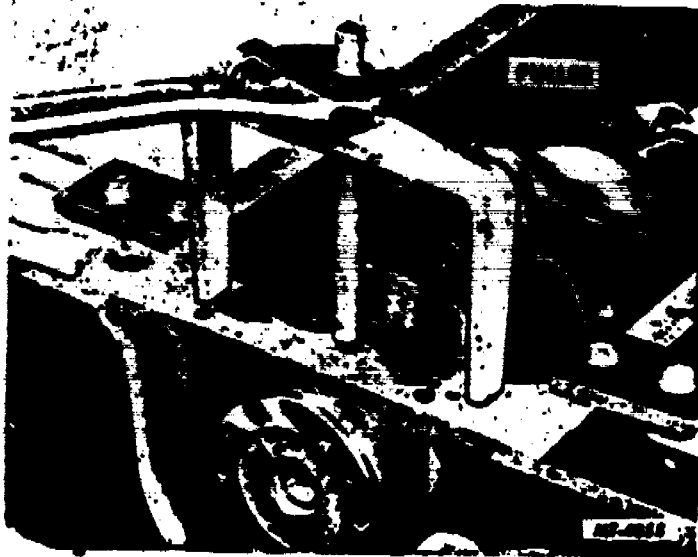

Fig. 20 - Removing Rear Main Bearing Cap with SE-1719 Puller
31. Remove rear main bearing cap using SE-1719 Puller. Discard bearing cap side seals as they should be replaced whenever bearing cap is disturbed. See Fig. 20.